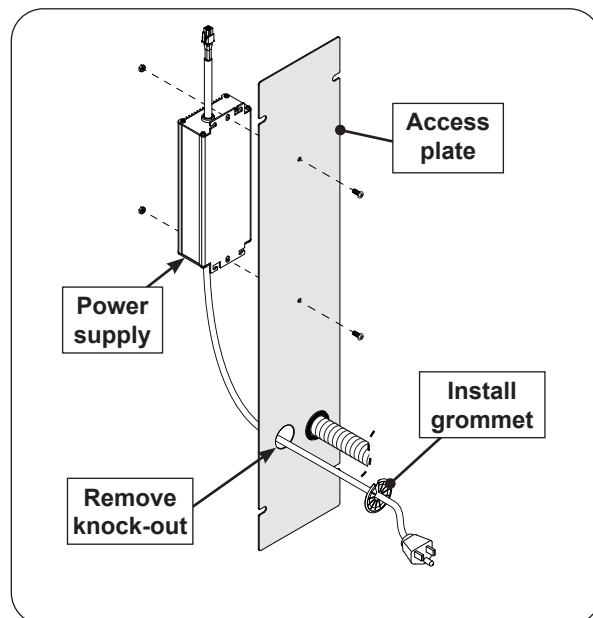

Fig. 21-1 Mount power supply to access plate
1. Orient the power supply (previously removed from grill) to the access plate as shown in Fig. 21-1 and secure it to the access plate with the provided hardware.